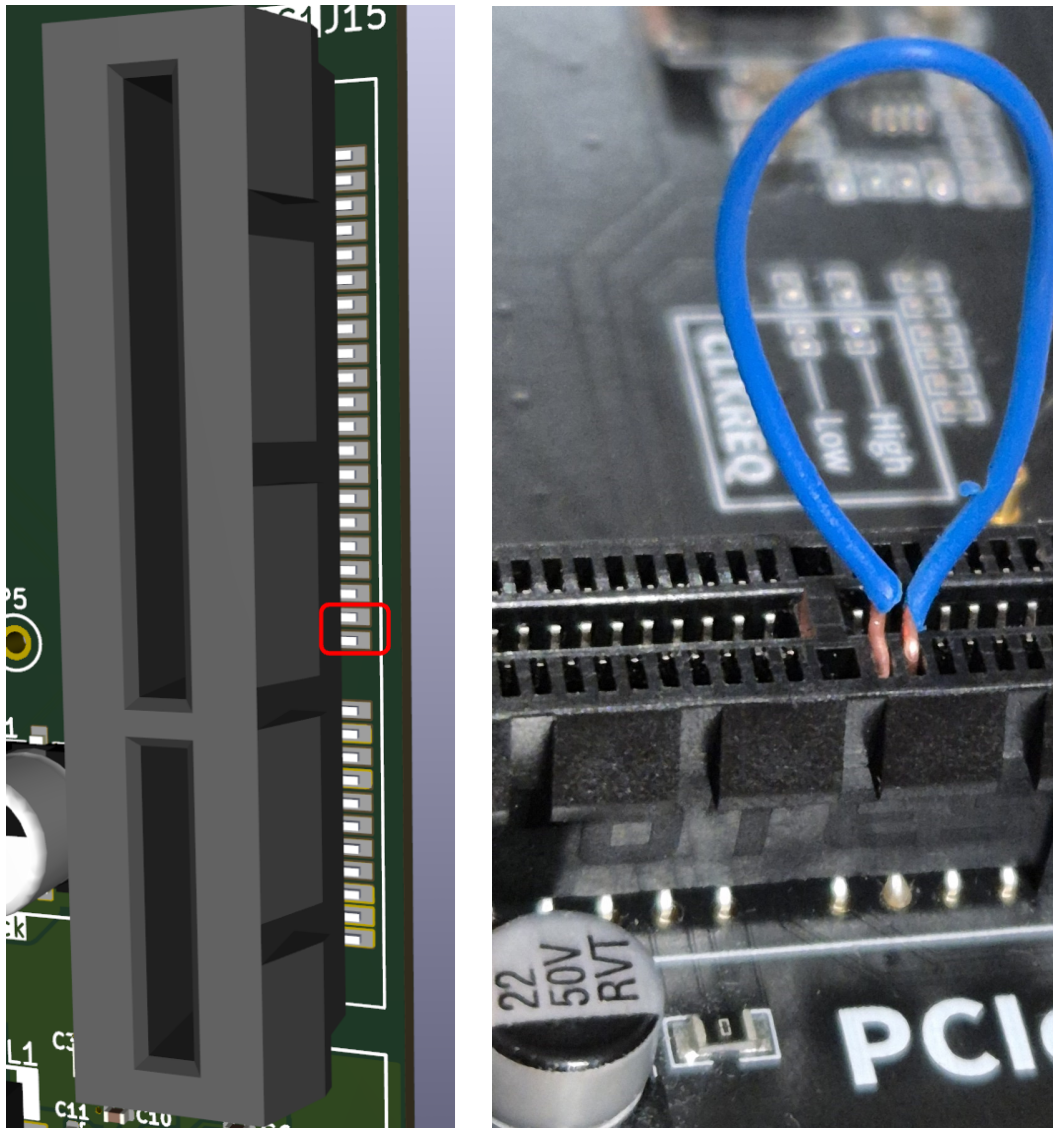

Figure 4: Activation Method: Shorting CLKREQ# to GND on SWRC1
- Refer to **Figure 4** for the exact pin position and method.